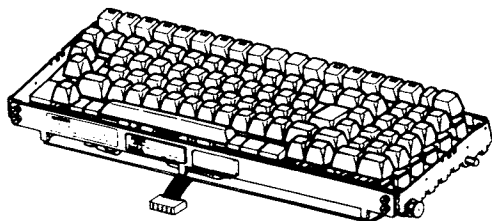

Fig. 1—43K202/GAC or 43K202/GAD
1.01 This part provides disassembly/reassembly procedures for the 42 Buffered Keyboard. (Fig. 1).